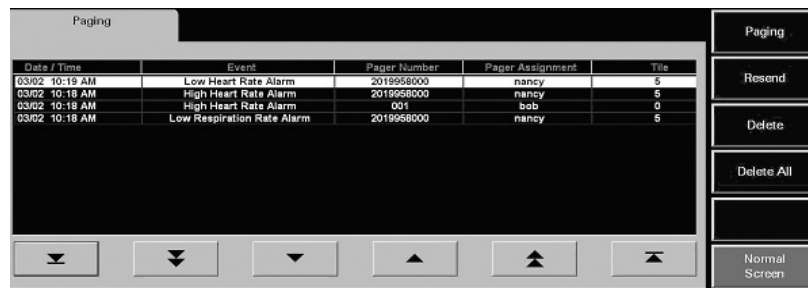

FIGURE 15-6 Failed Pages View
1. Select the **Failed Page** sidebar button. The **Failed Pages** view (shown in FIGURE 15-6) is displayed.